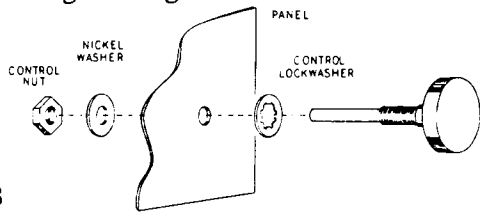

Figure 3
- () Mount the differential tuning capacitor to the VFO sub-chassis as shown in Figure 2. Place a 3/8 lockwasher on the back of the chassis and a 3/8 flat washer and nut on the front. See Figure 3. Align the capacitor so the stator plates appear as shown in Figure 2 before tightening.